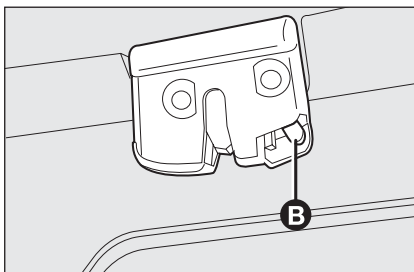

fig. 112
- ☐ operate lever **B**-fig. 112, to obtain tailgate mechanical release, operating from the inside of the boot.